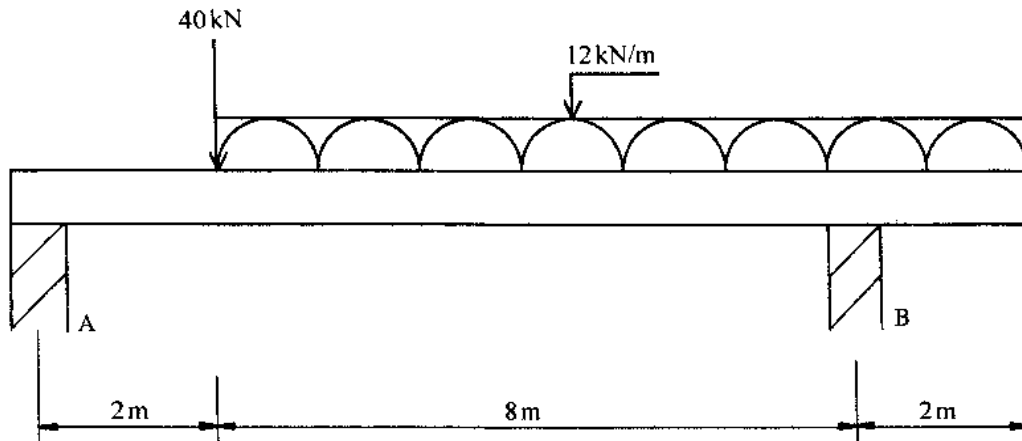

Figure Q2(b)
- (b) For the loaded beam shown in Figure Q2(b), determine the magnitude of each of the support reactions.